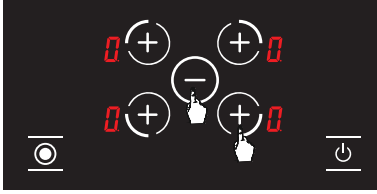

Figure 19
1. Simultaneously press the right front burner selection button **+** **-** (see fig. 19), and you will hear a short warning signal. Then take your fingers off the hob's control panel.